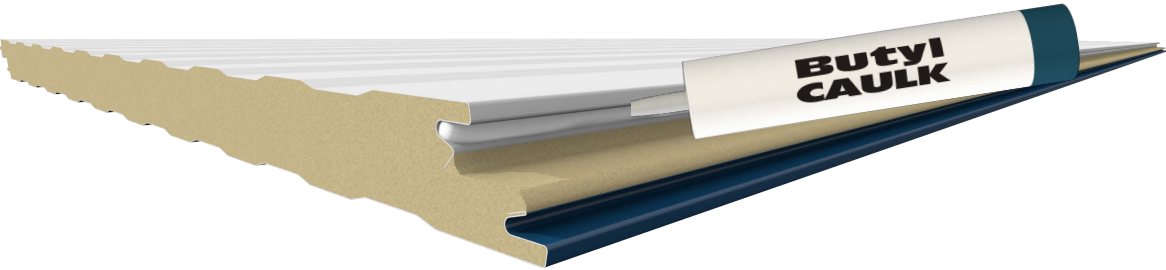

Figure 8.2
8.2 Apply continuous non-curing (non-skinning) butyl sealant to the interior panel joint with a bead size of approximately ¼” as shown in figure 8.2. Sealant should provide continuous seal between the tongue and groove, but not overflow onto panel faces.